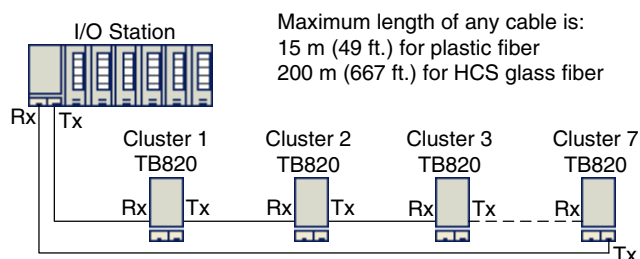

Figure 10. Optical ModuleBus and I/O Clusters, Simplex Communication
- simplex (ring) communication configuration. See Figure 10.